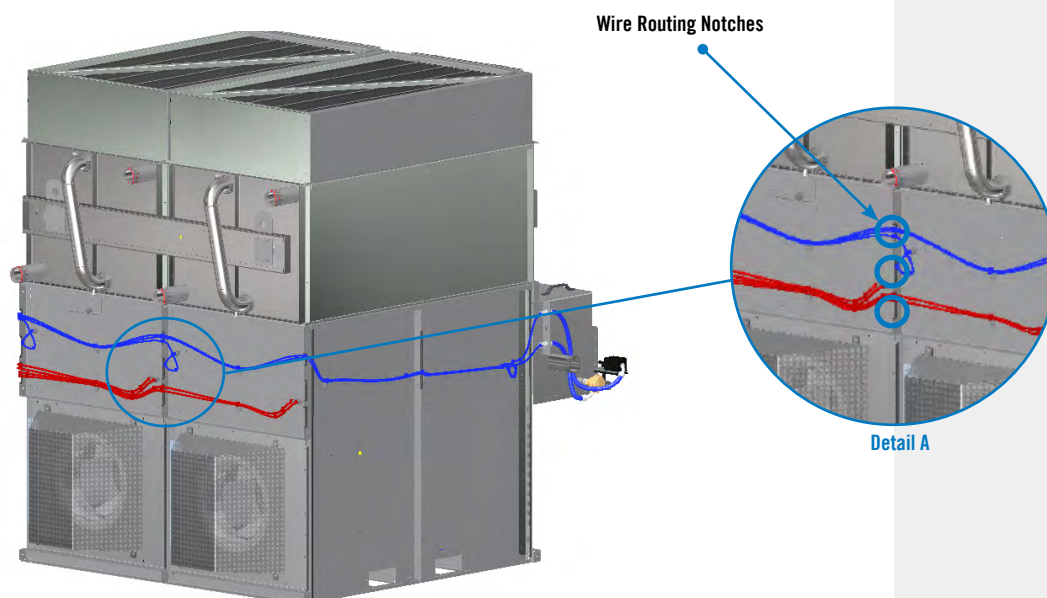

Figure 16. Fan Power Wire (Red Wire)
4. Route the fan power wire through the third notch from the top and wire mount, then secure the wire with zip ties to the unit. The fan power wire may use the second (middle) notch on NXF-0603 units when need. See **Figure 16**.